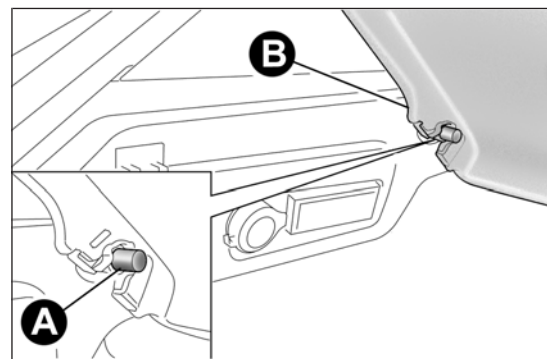

fig. 74
- free the pins A fig. 74 outside the shelf then remove the parcel shelf B sliding it outwards.